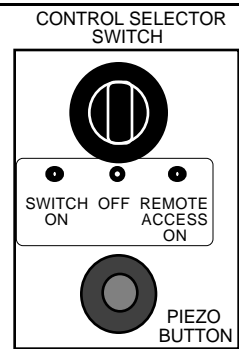
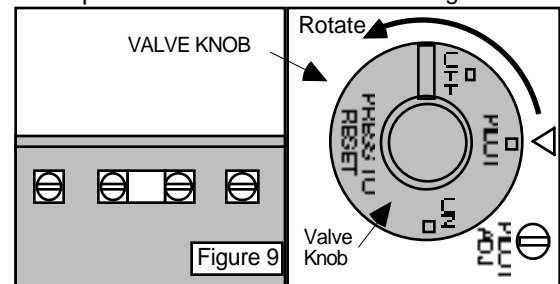
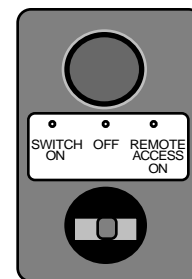

Figure 8
Figure 9
Figure 11
1. Place the **Control Selector Switch** in the **OFF** position (see Figure 8). Accessory Controls must also be turned "OFF". For units equipped with Remote Control, place the **Remote Receiver Switch** in the "OFF" position (see Figure 11). For **Thermostat Controlled** models, turn temperature dial to "OFF" or the lowest temperature setting.
2. Slightly push in **Valve Knob** and turn clockwise to "OFF". see Figure 9
2. If pilot flame adjustment is necessary, use a narrow long stem screw driver to turn **PILOT ADJUST SCREW**. The **PILOT ADJUST SCREW** is located on the Gas Valve (see Figure 9). Turn clockwise for less flame, counter clockwise for more flame.
Flame size at the burner is only adjustable at the **GAS VALVE KNOB**. Turn **GAS VALVE KNOB** counter clockwise for more flame; clockwise for less flame. See Figure 9
Receiver switch must be in "**REMOTE ACCESS ON**" position (Figure 11).
Manual Operation: (Receiver switch position ON or OFF) does not require batteries. See Figure 11
Remote Operation: Requires good batteries. If you turn the gas log on using the remote control and then turn the set off by sliding the receiver switch from REMOTE to OFF, when you replace the switch to REMOTE it will remain in the last selected remote position (in this case ON) and turn the gas log on. See Figure 11
Place manual switch in the "REMOTE ACCESS ON" position (see Figure 8).
- SWITCH or ACCESSORY.** Place **Control Selector Switch** in "OFF". Turn "OFF" all **Accessory Switches** (see Figure 8).
- FACTORY INSTALLED REMOTE.** Place **Receiver Switch** in the "OFF" position (see Figure 11). Slightly push and turn **Gas Valve Knob** to "OFF". The **Gas Valve Knob** cannot be turned to "OFF" without first depressing dial in "PILOT" position and then rotating clockwise to "OFF" (see Figure 9).